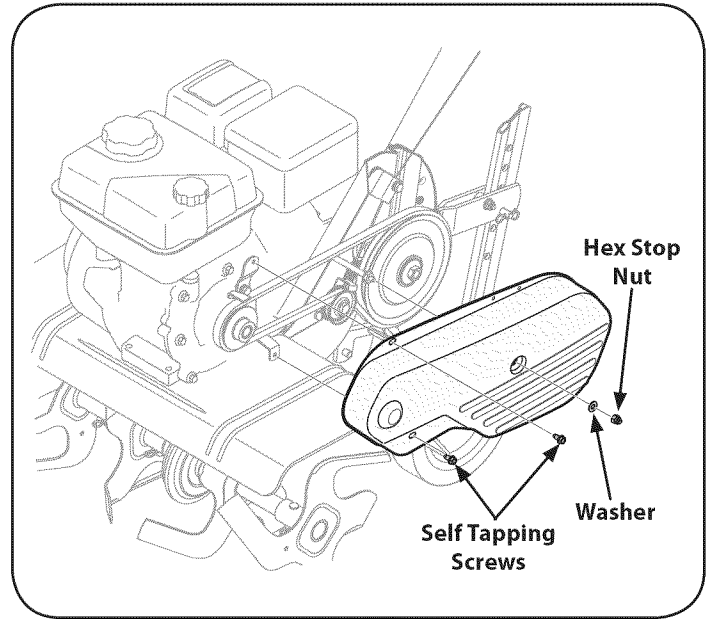

Figure 27
1. Remove the belt cover from the left side of the tiller by removing the two self tapping screws and hex stop nut and washer. See Figure 27.